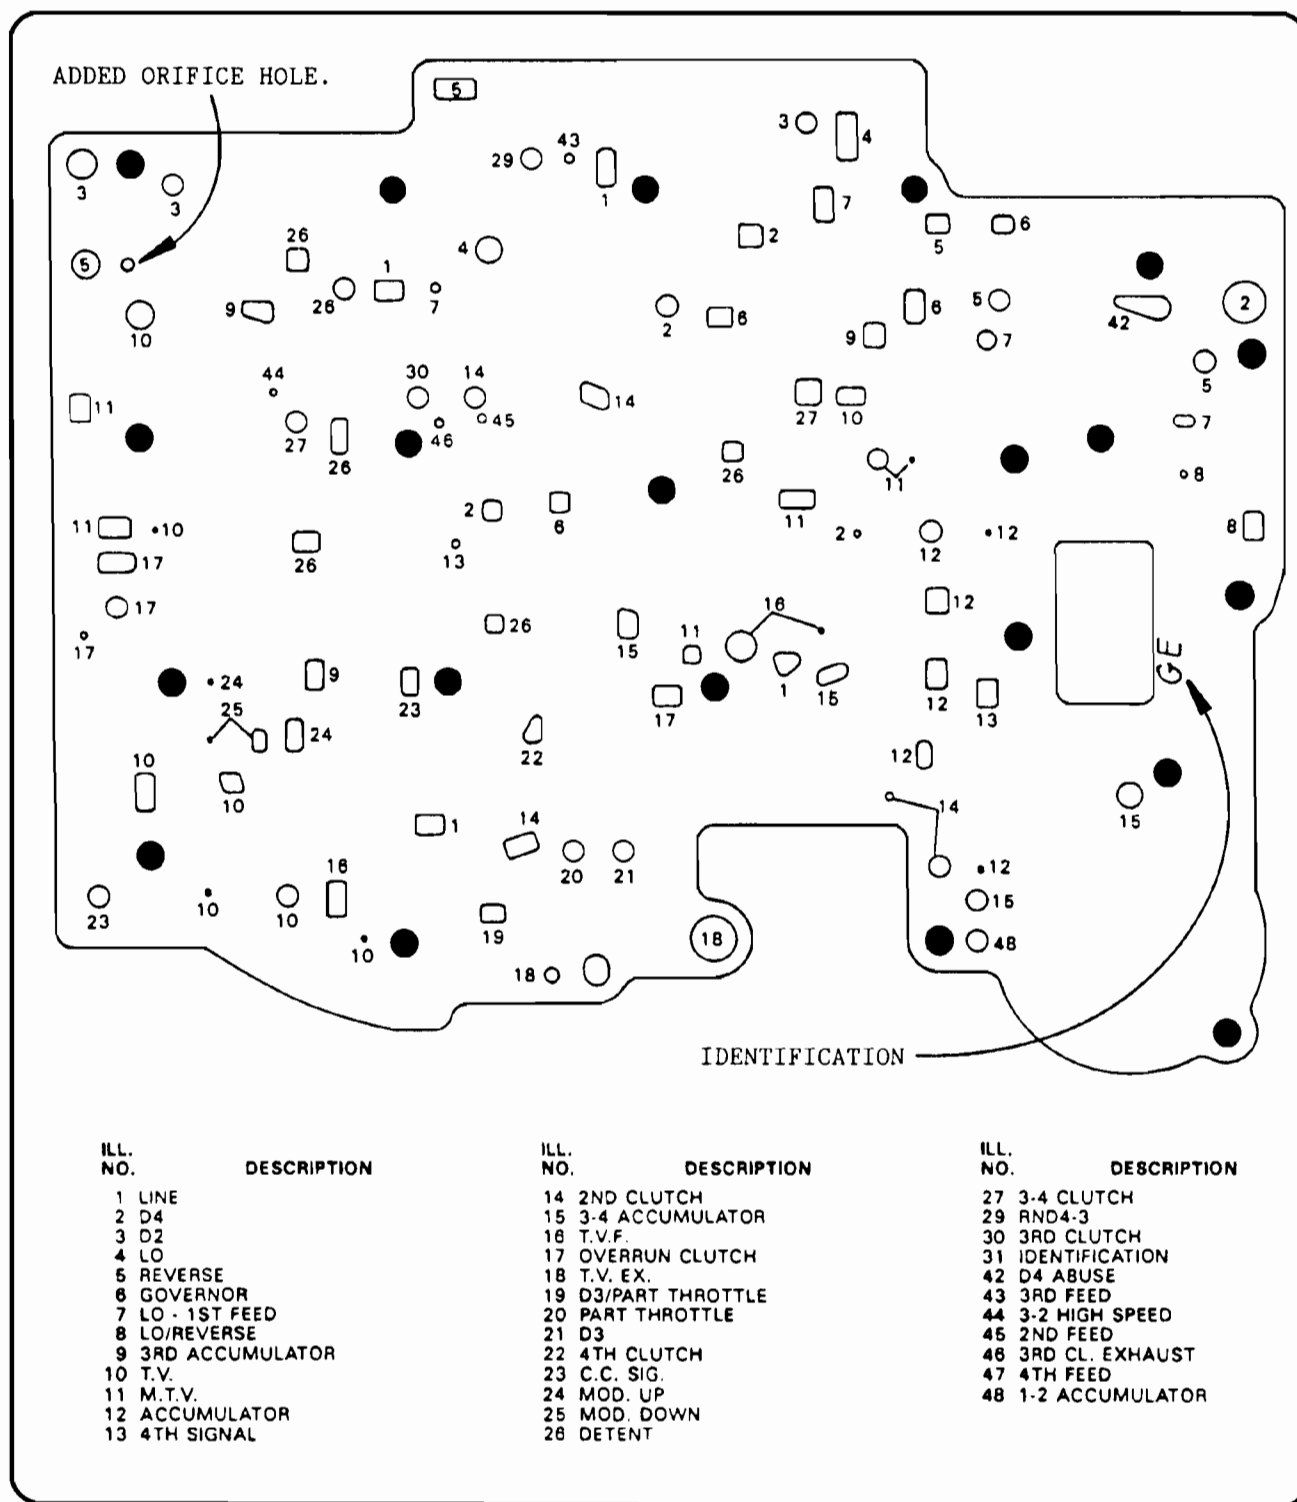

Figure 25
- (3) VALVE BODY SPACER PLATE - Orifice for the new checkball added in location shown in Figure , which is now the orifice for feed oil to the reverse input clutch. The 1993 spacer plate is identified with a two digit code stamped into the spacer plate as shown in Figure 25. However, the 1993 code letter can be prefixed with an "E", "G", or "H". Refer to the chart in Figure 26. Some 1992 spacer plates were also prefixed with an "E", so compare the chart in Figure 26, with the chart in Figure 27, so as not to get the wrong spacer plate.